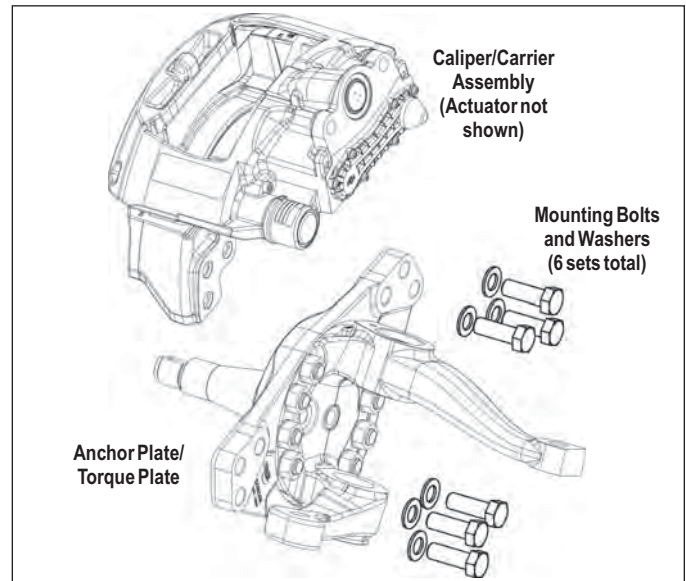

FIGURE 42 - AXIAL MOUNT CALIPER/CARRIER
5.3.6 Disconnect the air hose(s) to the brake chamber. See Figure 42. Supporting the air disc brake by necessary means, remove the six bolts attaching the brake to the anchor plate and remove the caliper/carrier assembly from the vehicle.